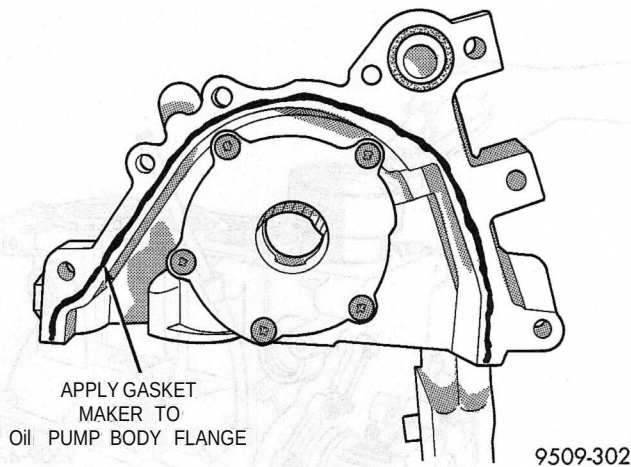

Fig. 87 Oil Pump Sealing
- (1) Make sure all surfaces are clean and free of oil and dirt.
- (2) Apply Mopar® Gasket Maker to oil pump as shown in (Fig. 87). Install oil ring into oil pump body discharge passage.
- (3) Prime oil pump before installation.
- (4) Align oil pump rotor flats with flats on crankshaft as you install the oil pump to the block.